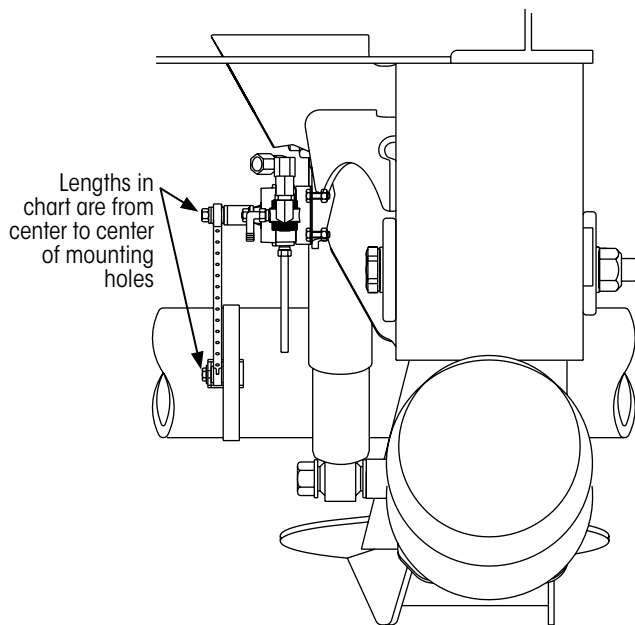

Figure 5: Measurement points for low-ride link lengths
1. **Assemble** the height control valve link to the length (Table 2). Lengths in the chart are from center to center of the mounting holes (Figure 5).